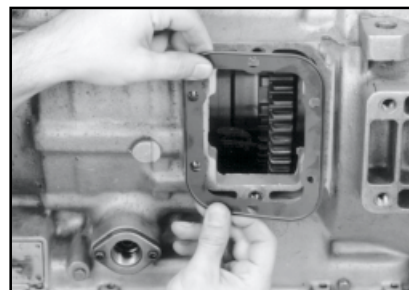

Figure 2
2. Place the 6 bolt rubber coated gasket on the transmission. The beaded (raised) surface should be facing the special mounting plate. (Fig 2).